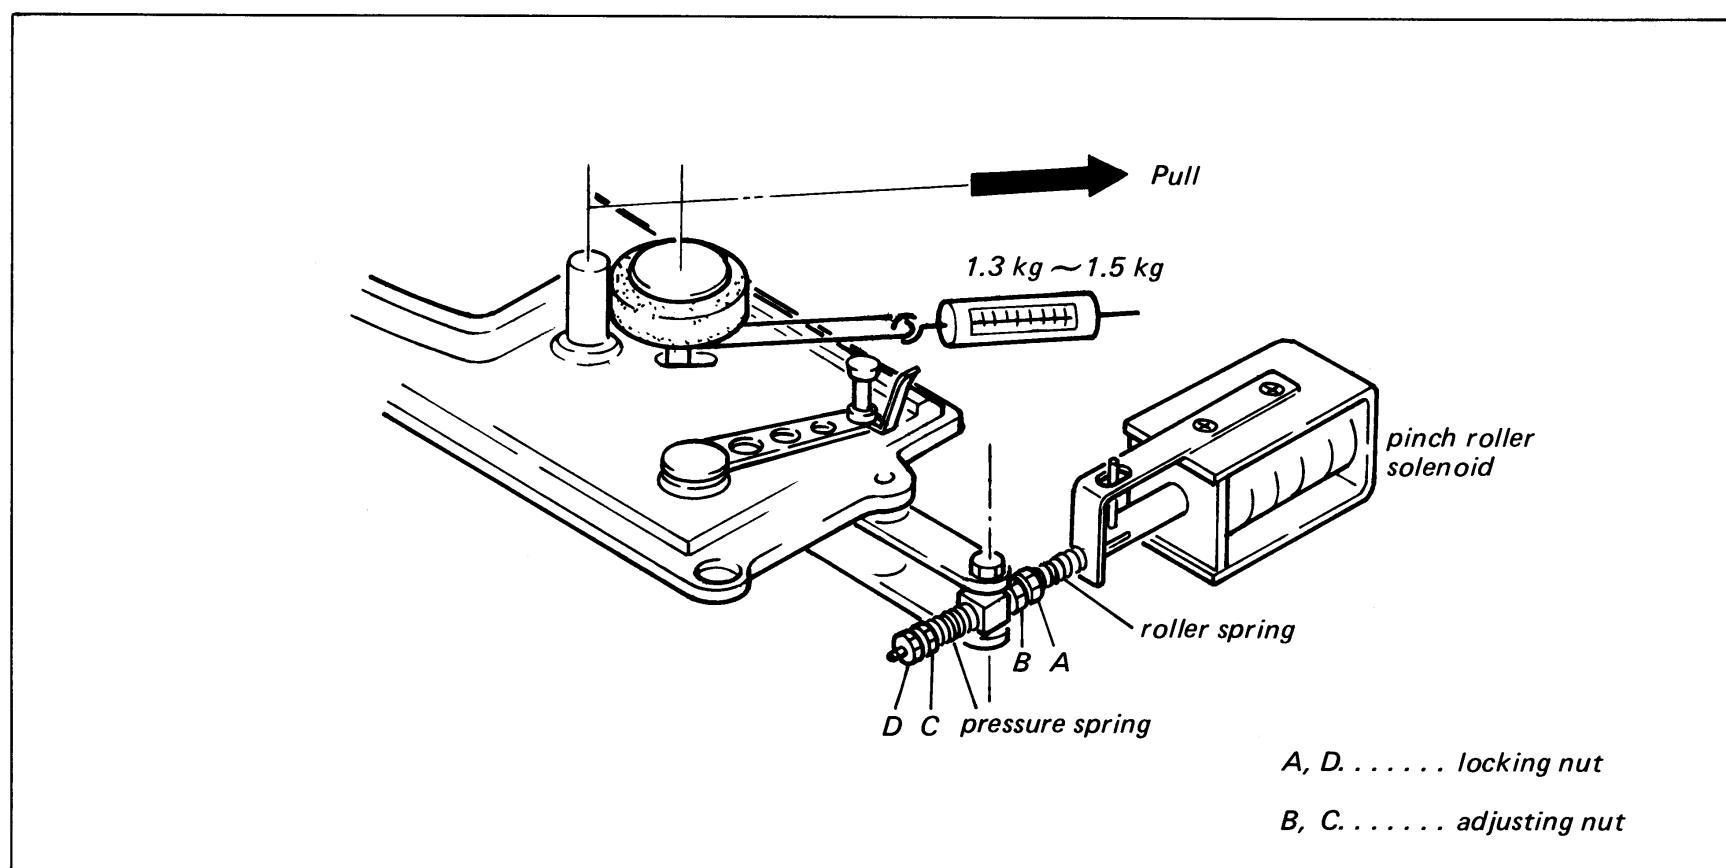

Fig. 3-4. Pinch roller pressure adjustment
3-4. Pinch Poller Pressure Adjustment (See Fig. 3-4)
- 2) Set the spring scale to the pinch roller as shown in Fig. 3-4. Push the FORWARD button "►".
roller stops rotating at the instant and adjust the adjusting nut C (see Fig. 3-4) of the pinch roller solenoid for a spring scale reading between 1.3 and 1.5 kg.